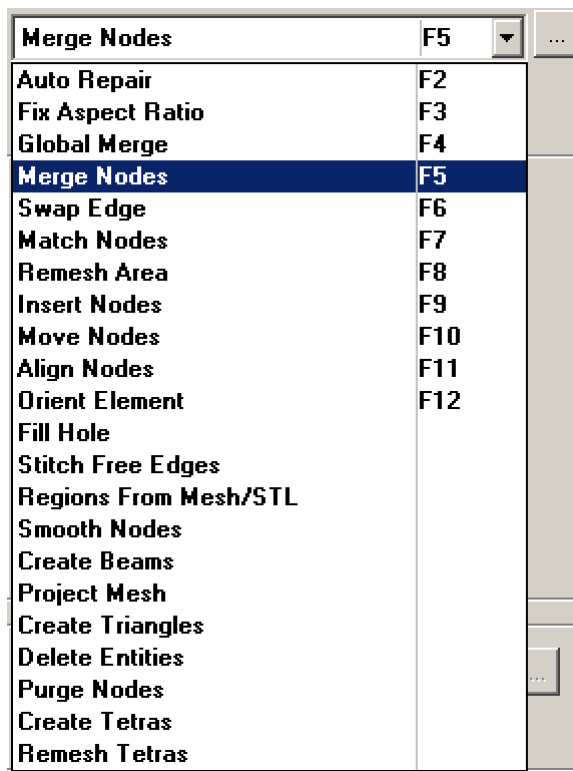

Figure 161: Combo box on the tools pane with mesh cleanup tools listed.
- Once one of the mesh editing tools is opened by other some method, the combo box on the Tools pane gets populated with all the tools, as shown in Figure 161. The first 11 tools have the F keys mapped to them. This is a very easy way to navigate between the tools.